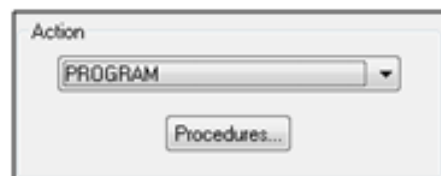

Figure 10 • Action List Window
2. Click **Procedures** as shown in Figure 10.